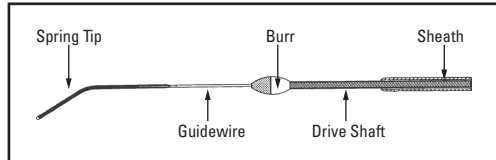

Figure 2. Catheter Tip and Guidewire
**Catheter:** This includes the burr and helical drive shaft, the sheath, the catheter connection, and the catheter body. As indicated in Figure 2, the diamond-coated burr consists of a tapered body coated with fine diamond particles. The burr spins at high speed and ablates occlusive tissue into fine particles that are carried distally and removed by the reticuloendothelial system. The burr is driven by a flexible helical drive shaft which has a central lumen that permits passage of the guidewire. The advancer connection, in conjunction with the catheter connection, allows the catheter to be separated from and reconnected to the advancer.
Verify that the guidewire tip (Figure 2 Spring Tip) is distal to the lesion and will not come in contact with the rotating burr.